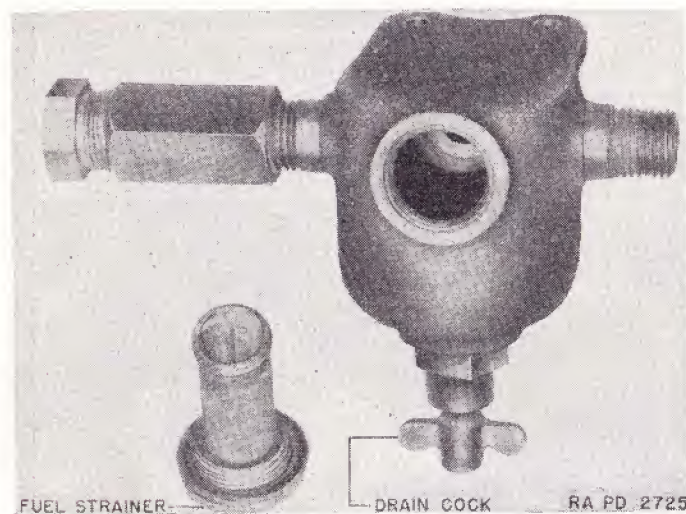

FIGURE 37.—Gasoline fuel strainer.
- (2) Loosen packing nut and remove primer plunger.
- (3) Unscrew large retaining flange type nut on front of instrument panel.
- (4) Remove from panel.
64. Fuel strainer.—*a. Description* (fig. 37).—The fuel strainer is of the sediment bowl type installed in the fuel system between the fuel supply valves and the fuel pump. It is located in the right rear corner of the engine compartment.